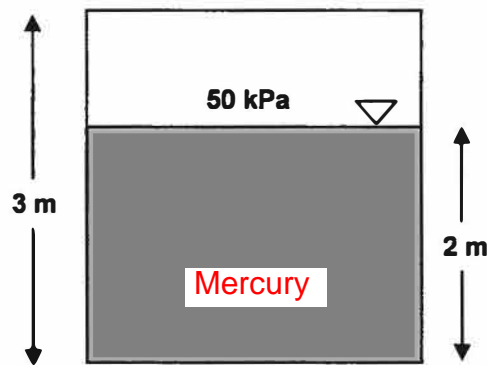

Figure 1.8
1.8 (Tutorial). Find the pressure at the bottom the tank including mercury shown in Fig.1.8. What will be the height if water is used instead of mercury to get the same pressure at the bottom of the tank? Comment on the solution.